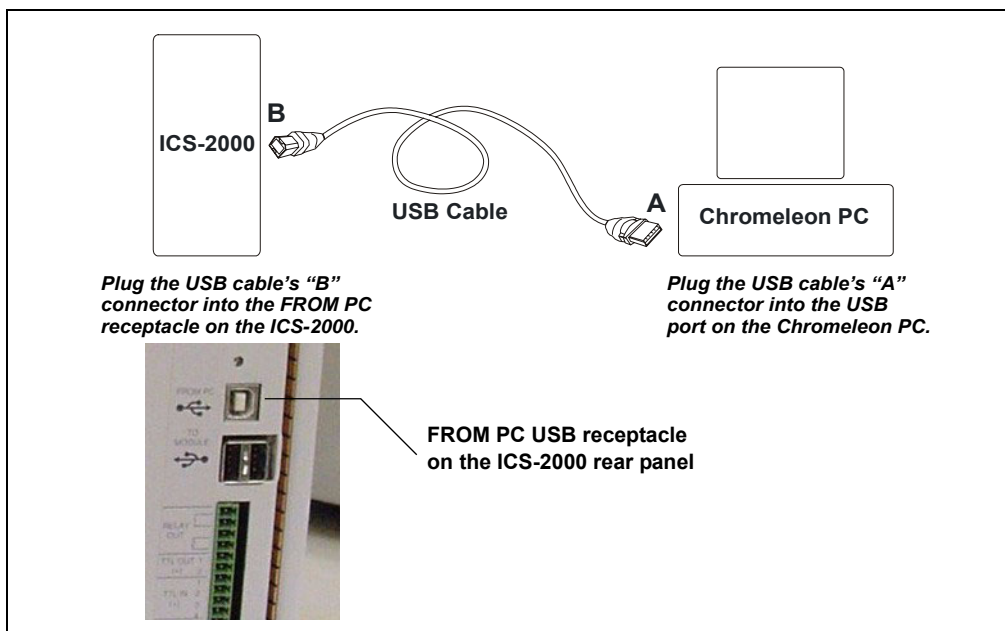

Figure 7. Example Connections: One ICS-2000 Connected to the Computer
2. Plug the cable's "A" connector into a USB port on the Chromeleon PC and plug the cable's "B" connector into the USB receptacle (labeled **FROM PC**) on the ICS-2000 rear panel (see Figure 7).